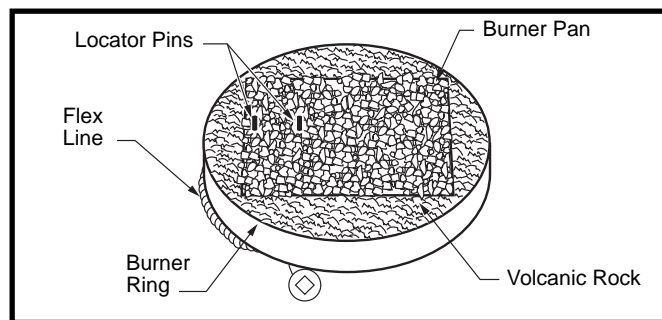

Fig. 10 Arrange volcanic rock evenly around and on burner pan.
- Place volcanic rock evenly around and on burner pan if you have not already done so. (Fig. 10)